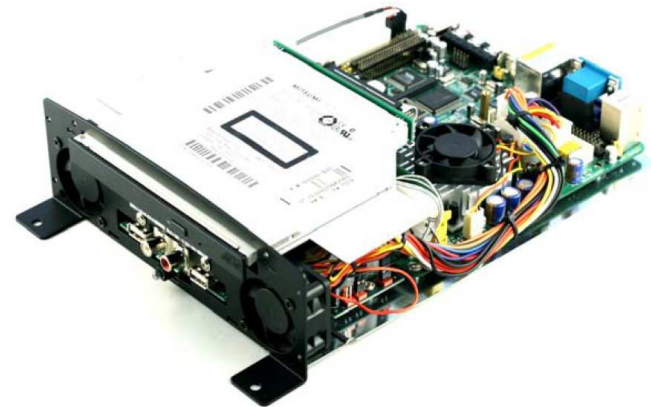

Figure 1.1, bottom mounting plate
9) Your final assembly should look similar to Figure 1.1. Slide the bottom plate into the extrusion and stop half way into the slide. Connect the power input faston wires to the Power Supply unit. (In case you are using a Power Amplifier, connect the AMP RMT wires to the Power Supply Anti-Thump header.